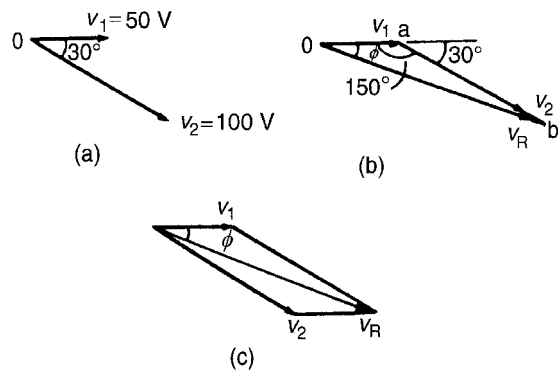

Figure 14.11
Phasors are usually drawn at the instant when time $t = 0$. Thus v_1 is drawn horizontally 50 units long and v_2 is drawn 100 units long lagging v_1 by $\pi/6$ rads, i.e. 30° . This is shown in Fig. 14.11(a) where 0 is the point of rotation of the phasors.
- (i) Draw v_1 horizontal 50 units long, i.e. oa of Fig. 14.11(b)
- (ii) Join v_2 to the end of v_1 at the appropriate angle, i.e. ab of Fig. 14.11(b)
Alternatively, when two phasors are being added the resultant is always the diagonal of the parallelogram, as shown in Fig. 14.11(c).
A more accurate solution is obtained by calculation, using the cosine and sine rules. Using the cosine rule on triangle Oab of Fig. 14.11(b) gives: